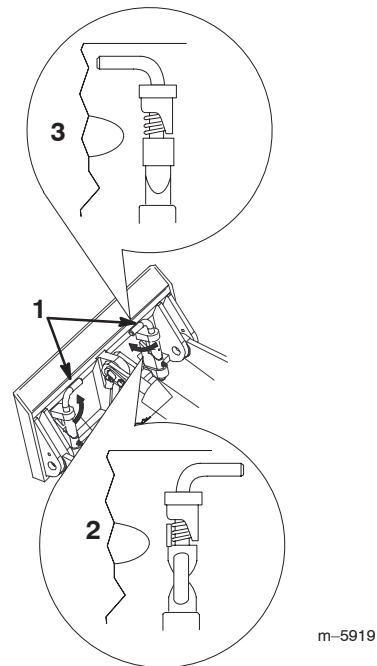

Figure 16
7. Engage the quick attach pins, ensuring that they are fully seated in the mount plate (Fig. 16).